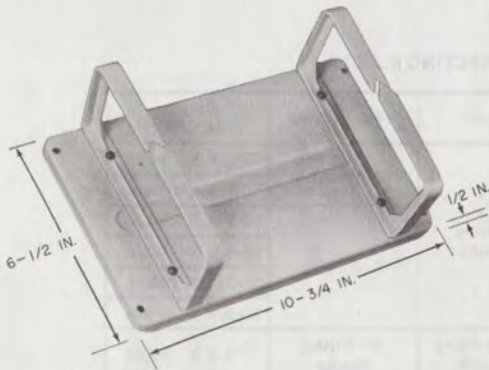

Fig. 4—188B1 Backboard
**2.07** The 188B1-type backboard (Fig. 4) is used to provide a horizontal wiring channel for cross-connect wire in large installations. The backboard consists of two plastic distributing rings mounted on a white sheet metal panel 1/2-inch thick by 10-3/4 inches long by 6-1/2 inches wide. The 188B1 backboard replaces the 188A1 which is rated MD.